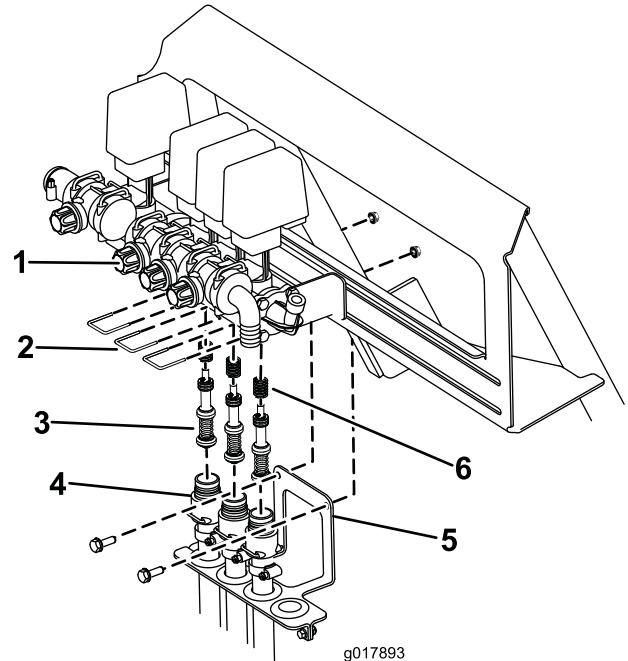

Figure 73
B. Remove the 3 forks securing the valve seats to the valve assembly (Figure 73).
- C. Remove the 2 screws and nuts securing the hose loom bracket to the sprayer frame (Figure 73). Lower the hoses away from the valve assembly.
assembly. Make sure to account for the springs in the valve (Figure 73).